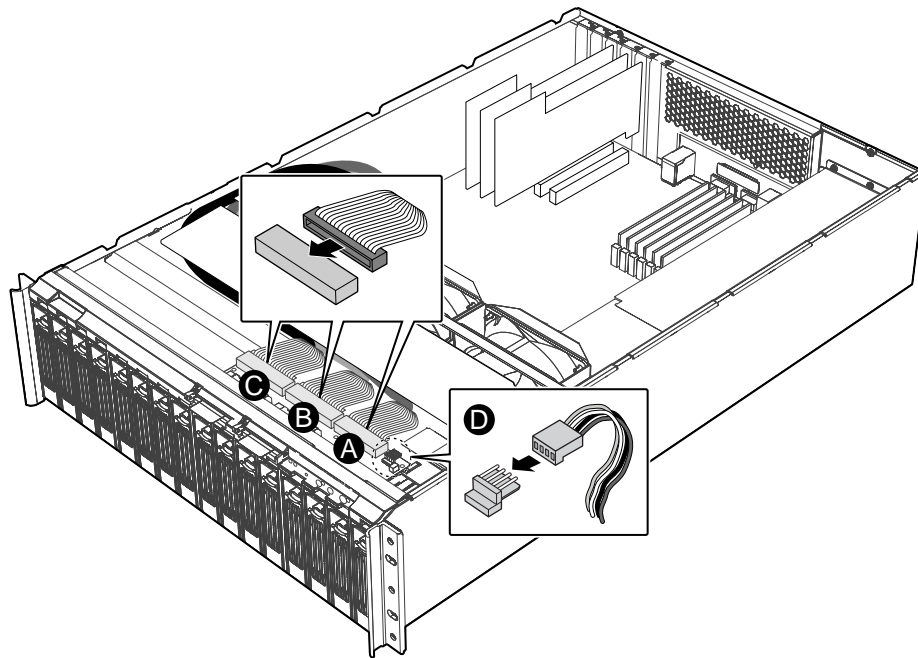

Figure 27. Re-seating Front Panel Board Cables
- A. Re-seat the Front Panel Cable labeled J1 into its connector receptacle on the front panel board. See Figure 27.
- B. Re-seat the Secondary IDE Cable labeled J3 into its connector receptacle on the front panel board. See Figure 27.
- C. Re-seat the Primary IDE Cable labeled J5 into its connector receptacle on the front panel board. See Figure 27.
- D. Re-seat the front panel power connector into its connector receptacle on the front panel board. See Figure 27.